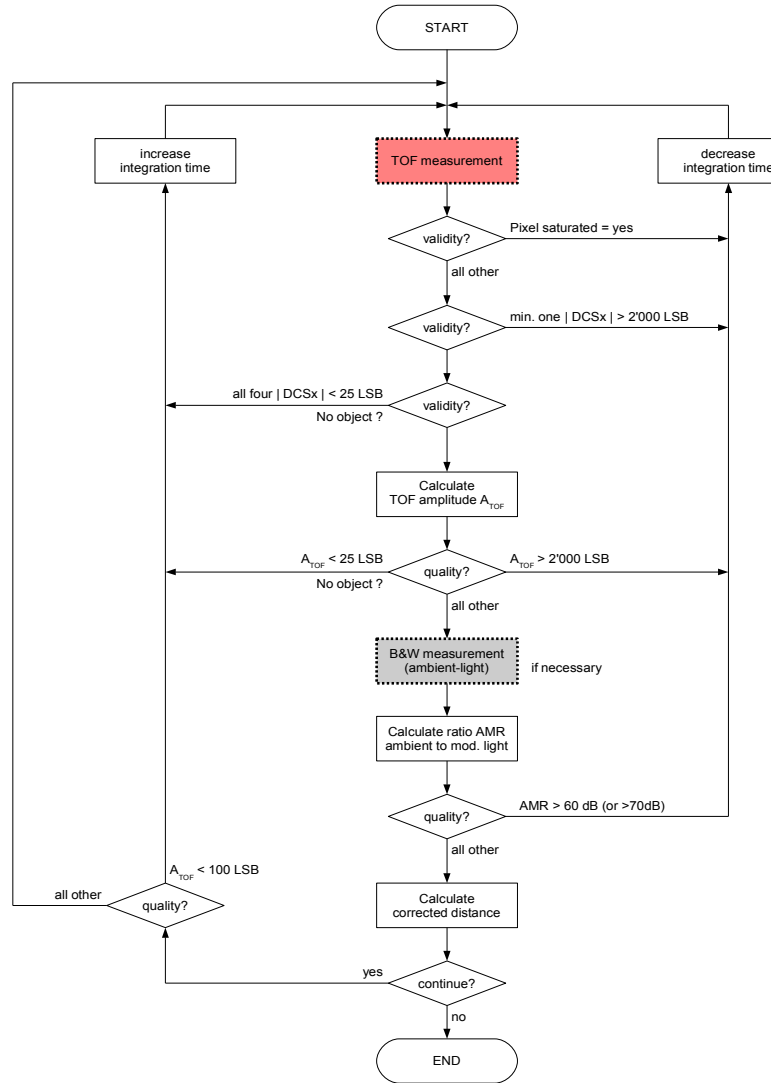

Figure 46: Generic validity and quality flow chart for a single pixel
Table 25: Validity (V) and quality (Q) decision matrix (see also to Figure 46)